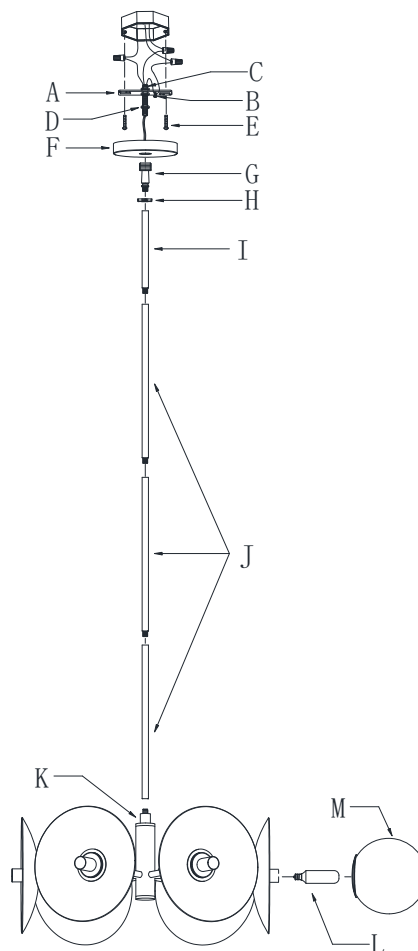

Fig. 2
CONNECTING THE WIRES (Fig. 2)
7. Connect electrical wires as shown in Fig.2, making sure that all wire connectors are secured. If your junction box has a ground wire (green or bare copper), connect the fixture's ground wire to it. Otherwise, connect the ground wire directly to the crossbar (A) using the green screw (B) provided.